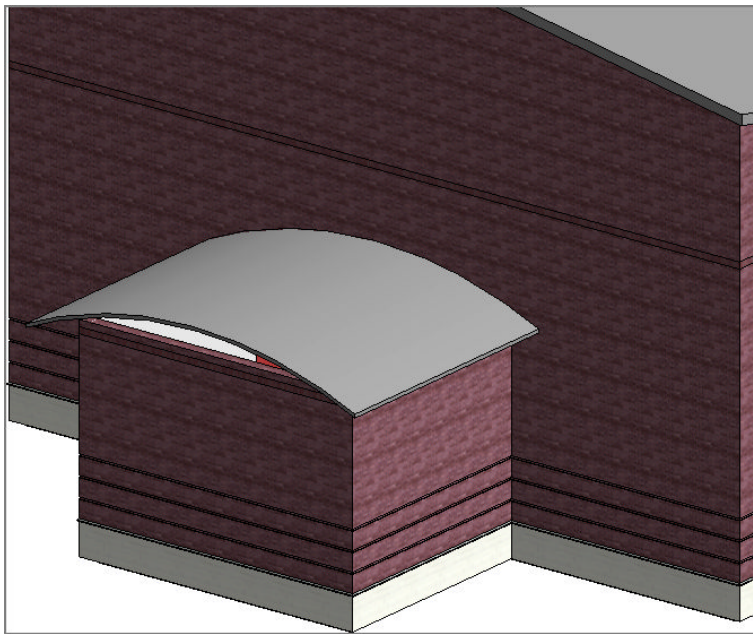

FIGURE 7.57: The completed canopy
4. Your roof should look like Figure 7.57. Select the three walls below the roof.